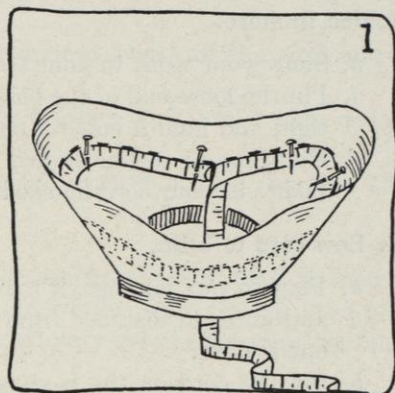

FIG. 1.
- (1) Put a basting on the brim where you want to put the cord.
- (2) Measure the basting (see Figure 1, page 93).